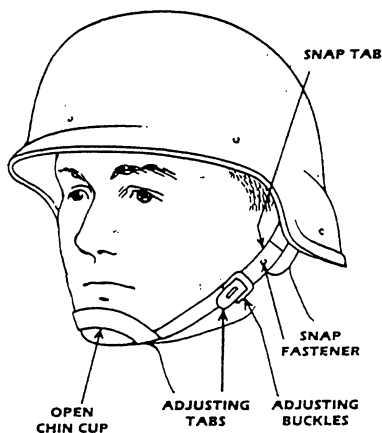

Figure 2-33.—Chin strap.
**CHIN STRAP.**— The chin strap (fig. 2-33) consists of the following: